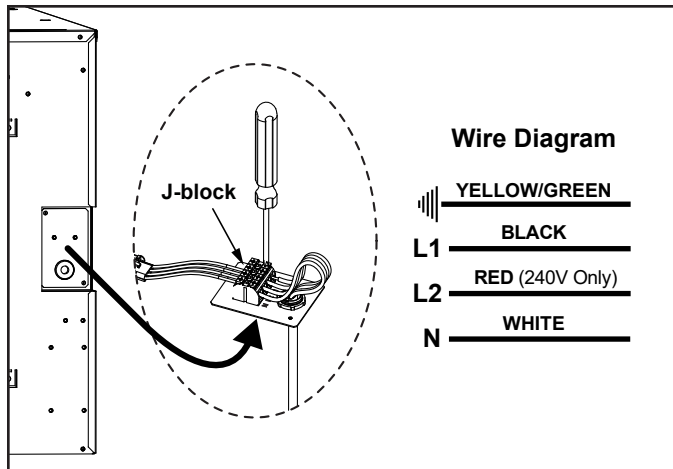

Figure 5.3 Electrical Connection
1. Remove the J-block plate located on the right side of the appliance. Keep the two (2) screws for J-block plate reassembly.
2. Install a NM-B wire strain relief into the J-block plate. Terminate type NM-B wire to the J-block, ensure connections are secure and tighten the wire strain relief. To load wire conductors into the J-block, depress the spring-loaded terminals on the J-block by hand or with a screwdriver. See Figure 5.3.
3. Reinstall the J-block plate to the appliance with the two (2) retained screws.